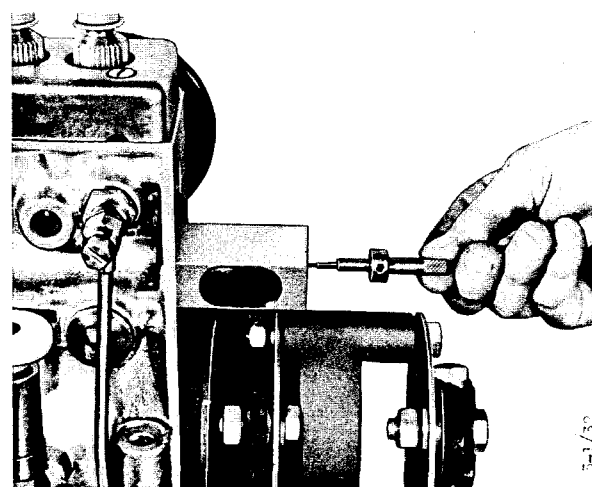

Fig.2
2. Screw the spacer pin in the control rod, fig. 2.